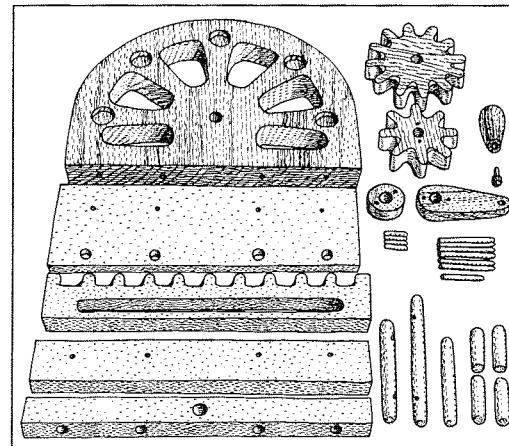

FIGURE 12-10
- 3 When you are happy with the movement, cut the dowel rods to size, drill peg holes, drill out the handle for the mushroom pivot, and sand over all the parts (Fig 12-10). Use round toothpicks for fixing everything in place.